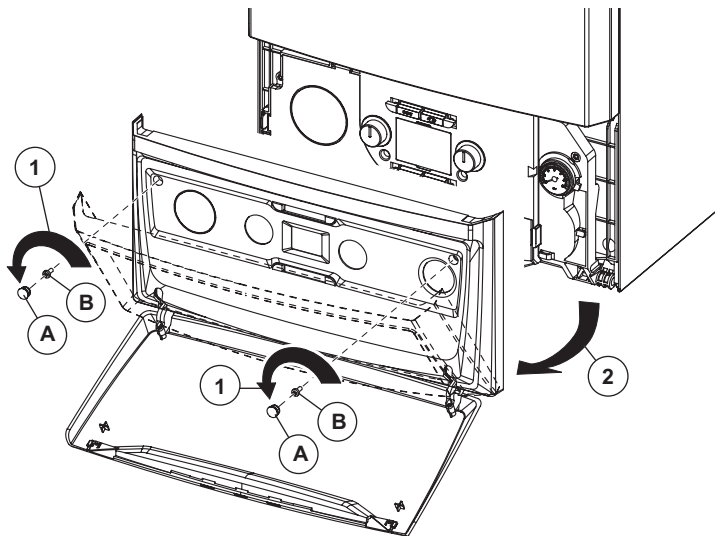

Fig. 6.1
6.2 CASING REMOVAL - Figs. 6.1, 6.2, 6.3 and 6.4
Control panel cover - Fig. 6.1